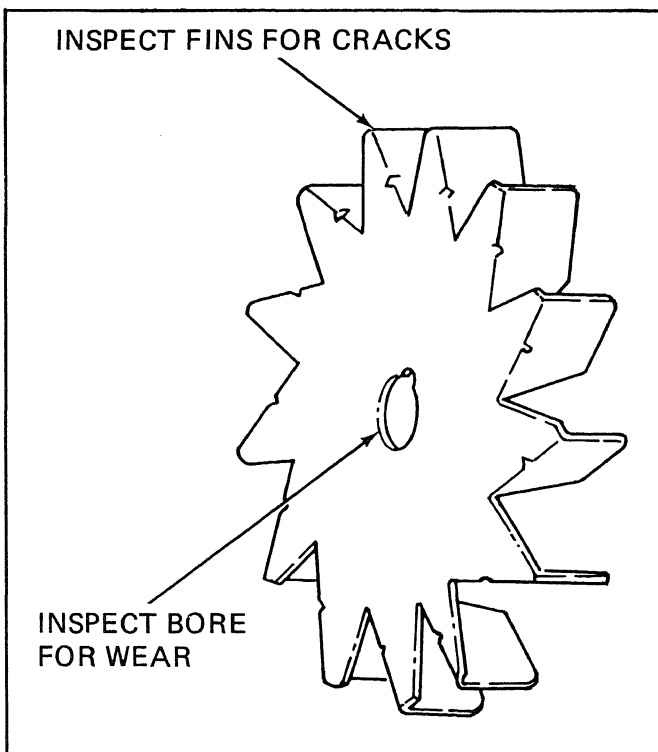

Figure 5-28.18. Alternator Fan Inspection
- (2) Check rear housing for cracks around drilled openings. Replace housing if cracks are present.
- (3) Check for scuff marks at rear bearing bore of housing. If rear bearing bore has been scuffed from bearing turning in casting, replace housing.
- (4) Inspect fan for cracked or broken fins, and note condition of mounting holes. Replace fan if cracked or broken fins are found. If mounting holes are worn from running loose, replace fan to ensure balance, see figure 5-28.18.